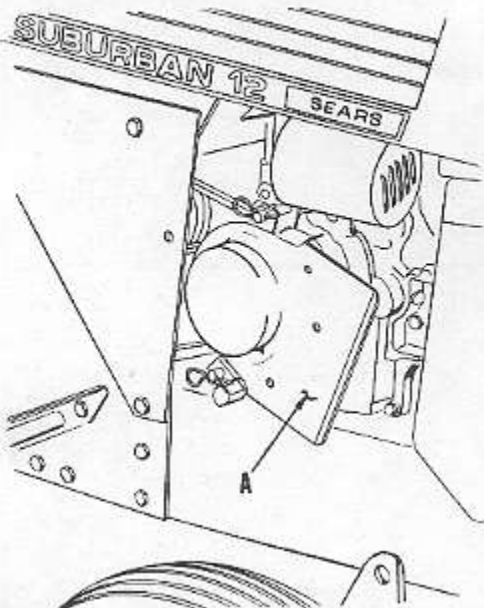

FIG. 5
- The belt guard (A, Fig. 5), is used for the Rotary Mower, Cutter Bar Mower and Rotary Snowplow. However, this belt guard can be left in place for normal tractor operation even when one of the above attachments are not being used. The machine screws, bushings and nuts shipped with guard should be stored in a safe place or positioned in the guard for safe keeping. Instructions for the placement of the screws, bushings and nuts were shipped in same plastic bag.